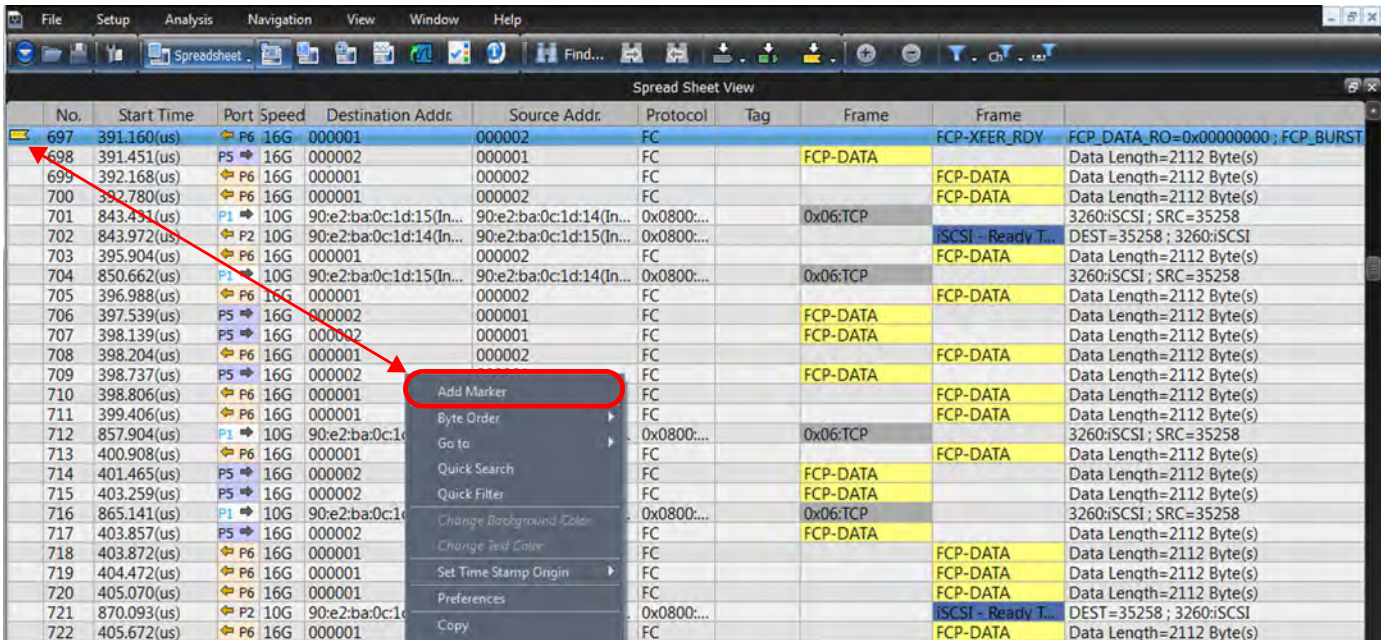

Figure 5.27: Adding a Marker Window
1. Right-click anywhere in the data in Spreadsheet view and select **Add Marker** (see Figure 5.27).